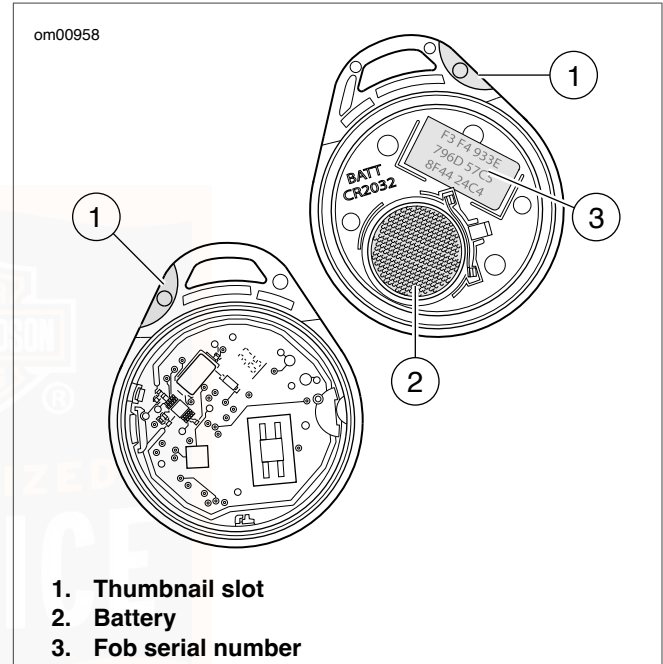

Figure 34. Fob Battery
1. See Figure 34. Slowly turn a thin blade in the thumbnail slot (1) on the side of the fob to separate the two halves.
2. Remove the battery (2) and discard.